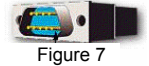

Figure 7
- Step 1** Attach the 20-foot serial cable male connector (DB9M – see Figure 7) to the mobile radio.